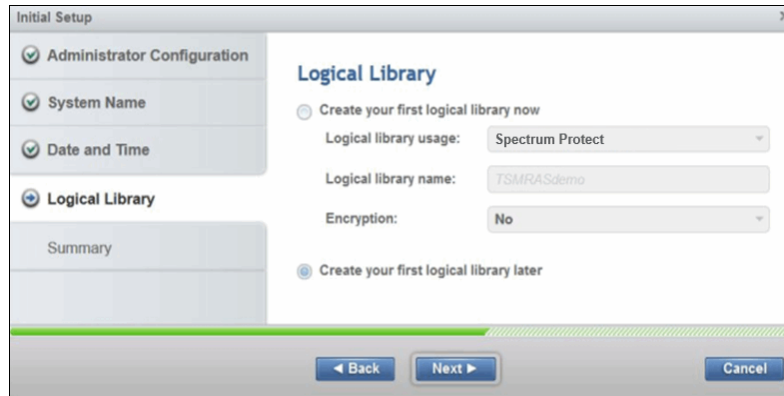

Figure 4-8 Logical libraries
3. Use the window that is shown in Figure 4-8 on page 205 to configure a logical library (LL), or you can skip this step and configure the LL later.